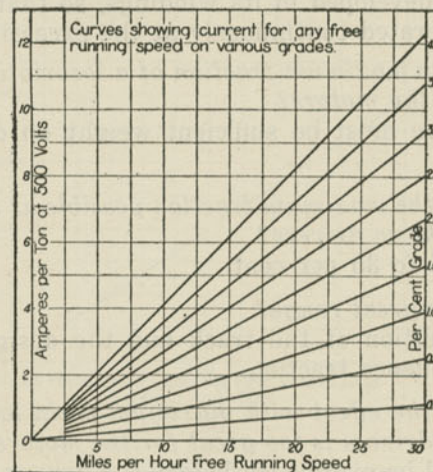

Fig. 400.
A. Primarily upon speed, train weight, and grades; secondarily on alignment, average car weight, and frequency and length of stops. Fig. 400 assists in fixing the maximum train weight.
A. With maximum grade 3 per cent. for 1.5 miles, and current drawn from a 500-ampere station, 8 m. p. h. desired. The sub-station may work at 50 per cent. overload: 750 amperes. Fig. 400 shows 2.5 amperes per ton needed at 8 m. p. h. on a 3 per cent. grade. Hence the maximum train weight at that speed is  $750 \div 2.5 = 300$  tons, including locomotive weight.